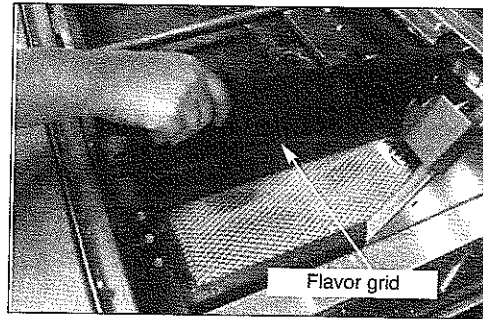

Fig. 1
5. Replace the flavor grid. (See Fig. 1 of PFISLP)